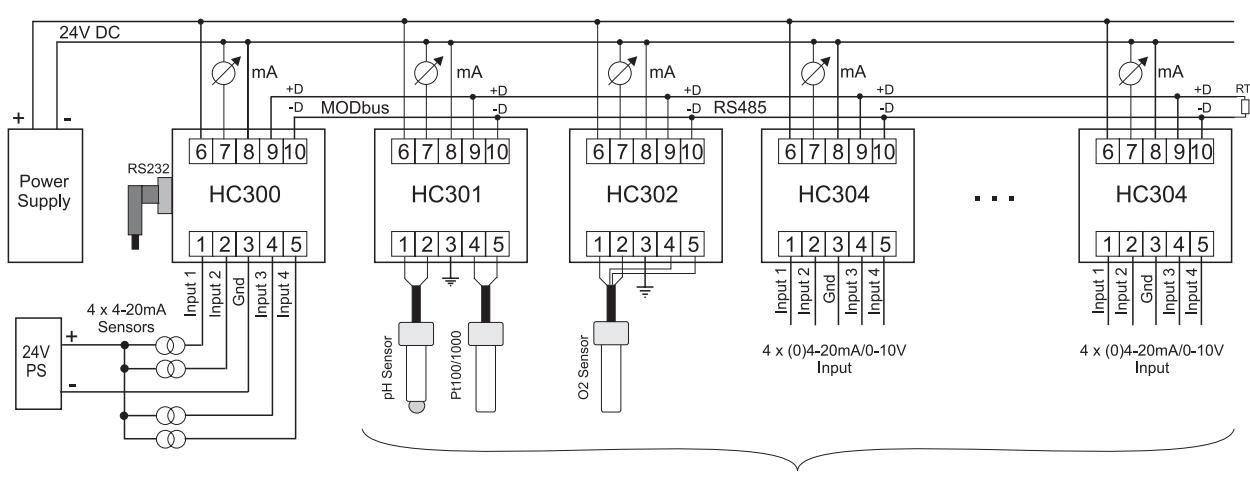
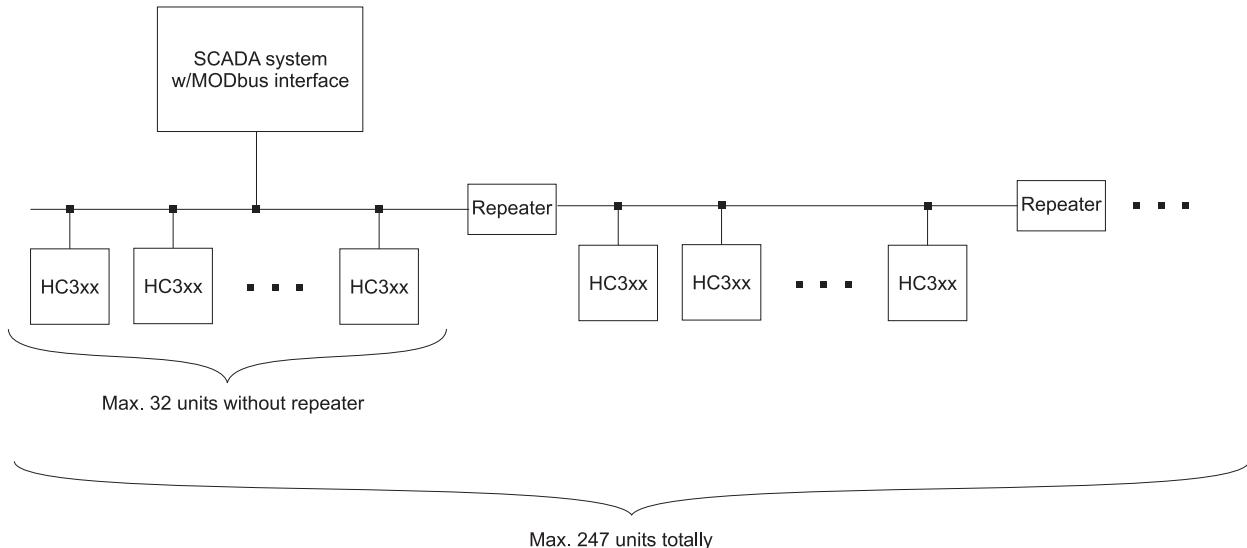

Figure 1. Example of a network with the HC300 as the master
Figure 2. Principle of a network with a SCADA system as the master
The implementation of the MODbus in the HC family is based on an RS485 connection between the units. The driver circuit in each of the transmitters allows up to 32 units without the use of repeaters (see figure 2), while the address may be set within the whole address space of the MODbus standard (247). Using the ‘dat’-unit HC300 as the master only the addresses 1..14 are valid, since the format in the data acquisition limits the number of nodes to 14 (see figure 1). Naturally two units on the network are not allowed to share the same address.
The example in figure 1 shows a number of HC units connected to the master HC300. Which units and in which order is of course of no importance. Please note the terminating resistor (Rt) at the end of the network. It should be present if the distance between the units is significant. The value of this resistor is typically  $120\Omega$ . The
The principle of a network with a SCADA system as the master is shown in figure 2. Here the MODbus standard sets the limit of the number of units, since the maximum valid address is 247. As shown in the figure up to 32 units may be connected without the use of a repeater. The same demands apply to the terminating resistor as described in the paragraph about the HC300.